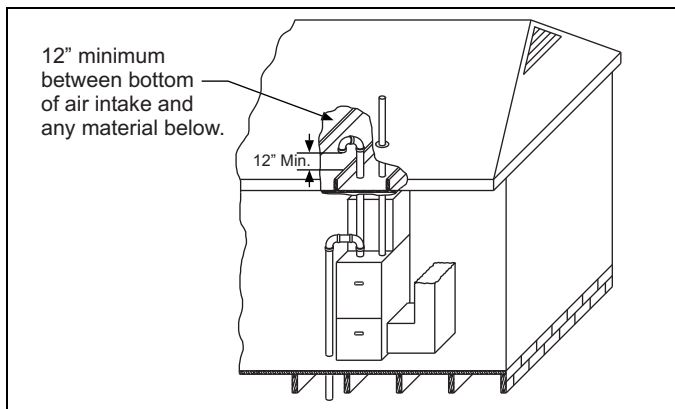

Figure 40: Attic and crawl space combustion air termination
3. **Ventilated combustion air:** Combustion air is supplied through a PVC, CPVC, or ABS pipe that is connected to the coupling attached to the burner box and is terminated in a ventilated attic or crawl space. The combustion air and the vent pipes are not terminated in the same atmospheric zone. See Figure 40 for attic and crawl space termination. Only the combustion air intake may terminate in the attic. The vent must terminate outside.